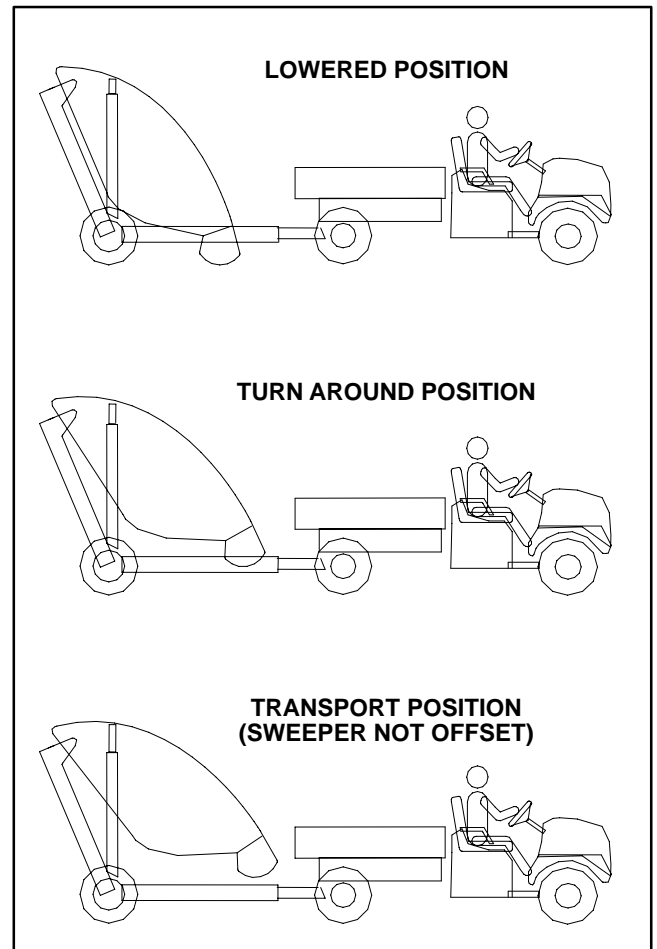

Figure 11
2. Depending on which proximity switch is to be tested, position the sweeper as listed below (Figs. 11 and 12). In this sweeper position, the LED on cable end of proximity switch **should be** illuminated when electrical power is available to sweeper.
3. Depending on which proximity switch is to be tested, position the sweeper as listed below (Figs. 11 and 12). In this sweeper position, the LED on cable end of proximity switch **should not be** illuminated when electrical power is available to sweeper.